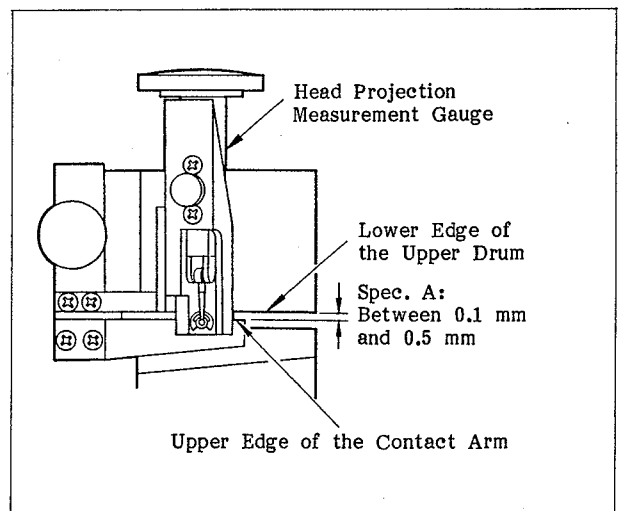

**Fig. 5-21 Head Projection Check (1)**
5. Mount the head projection measurement gauge in the position shown in Fig. 5-21. Clean the drum support and the mounting surface of the tool with a cloth (or gauze) moistened with alcohol before mounting it. After cleaning, tighten the set screws while pushing the tool down and in the direction of the upper drum at the same time so that there is no gap between the drum support and the tool, as shown in Fig. 5-22.